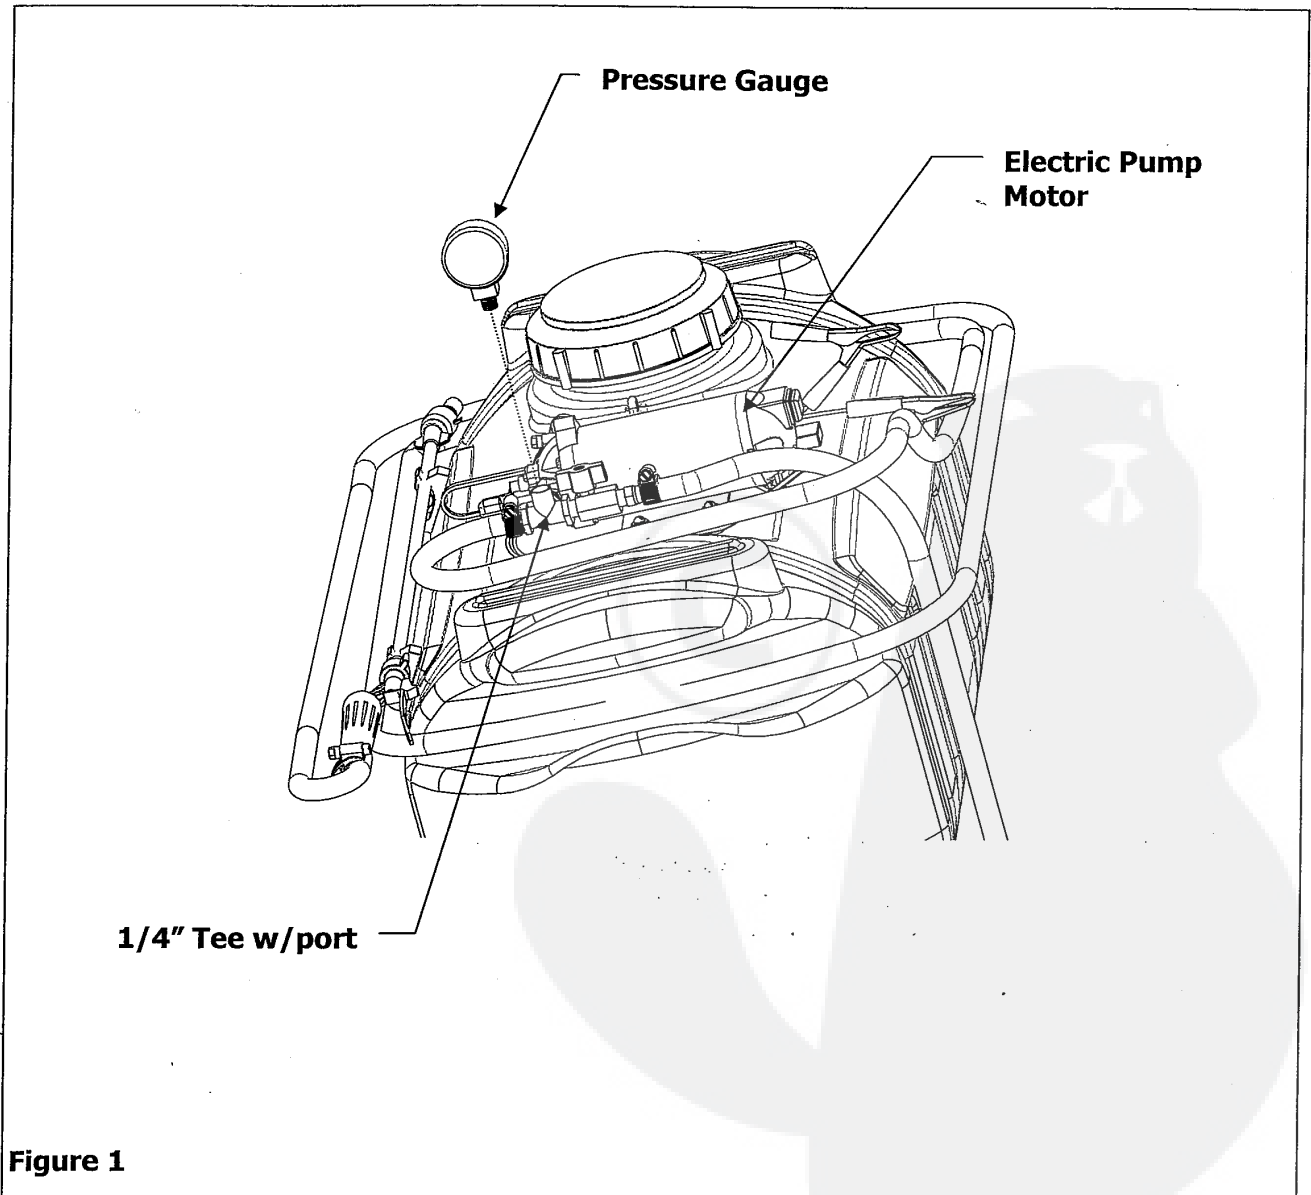

Figure 1
This unit is fully assembled except for Pressure Gauge, see Figure 1.
1. Take Pressure Gauge and screw it securely into 1/4" Tee w/port, located next to Pump. See Figure 1.